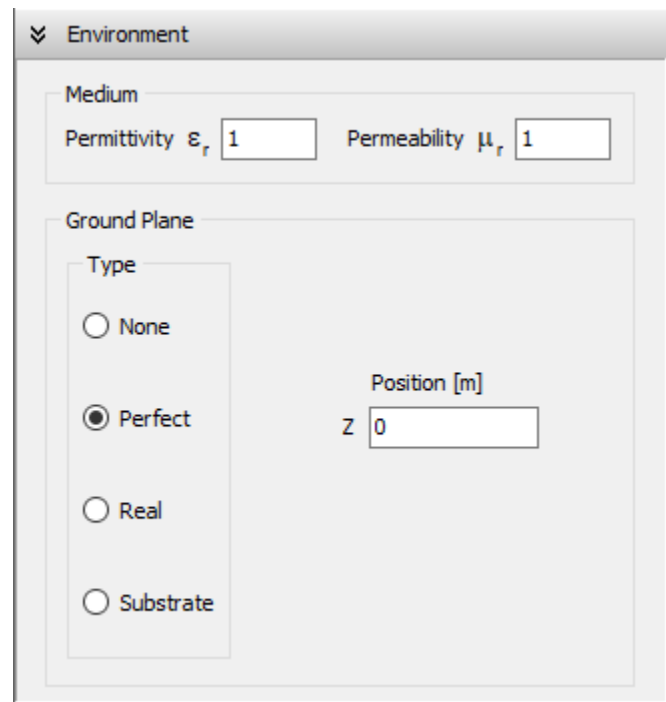

Fig. 1: Perfect option in the Ground Plane box of the Environment panel.
2. Select the **Real** option in the **Ground Plane** box (see Fig. 1).